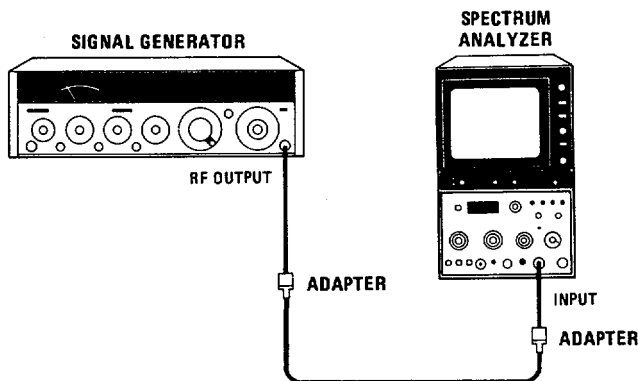

Figure 4-7. Noise Sideband Test Setup
2. Connect equipment as shown in Figure 4-7.